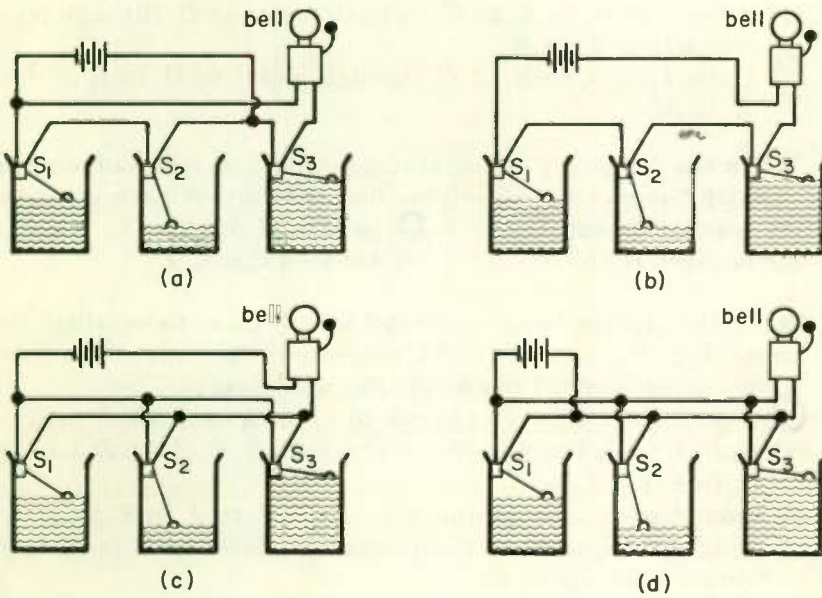

Fig. 40
- (1) (a) (2) (b) (3) (c) (4) (d)
7. Figure 40 shows three oil tanks. Floats on top of the oil operate the switches S_1 , S_2 , and S_3 , each switch being adjusted to close when the oil level in its tank goes below 2 ft. The emergency bell should ring when the oil level in *all* tanks is below 2 ft., but not